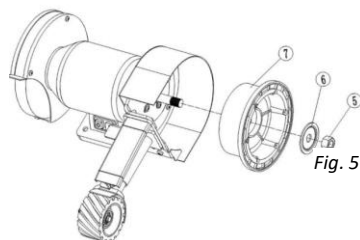

Fig. 5
1. Install the driving wheel (#7) into the wheel shaft of the grinder (Fig. 5).
2. Install the grinding wheel flange (#6) and tighten the nut (#5) (Fig. 5).